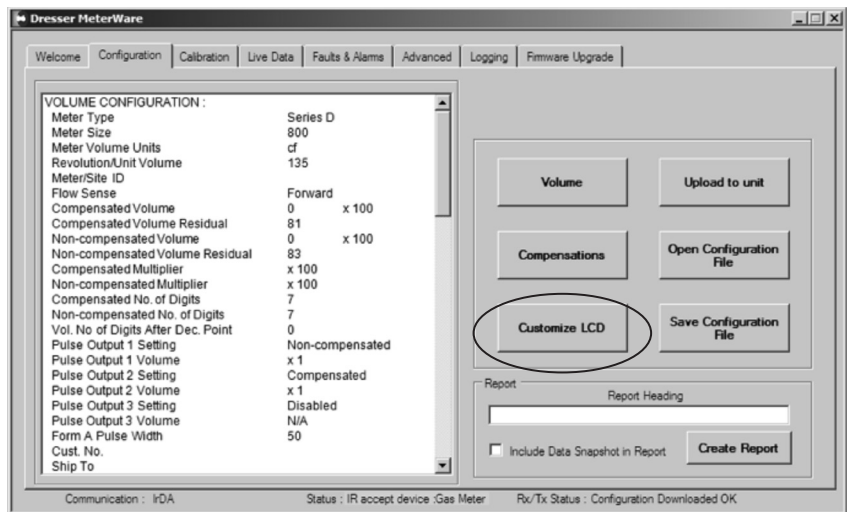

Figure 1 - Configuration screen in Dresser MeterWare
1. Using the Dresser MeterWare software, go to the **Configuration** screen (Figure 1), and select **Customize LCD**, which will open the **LCD Settings** screen.